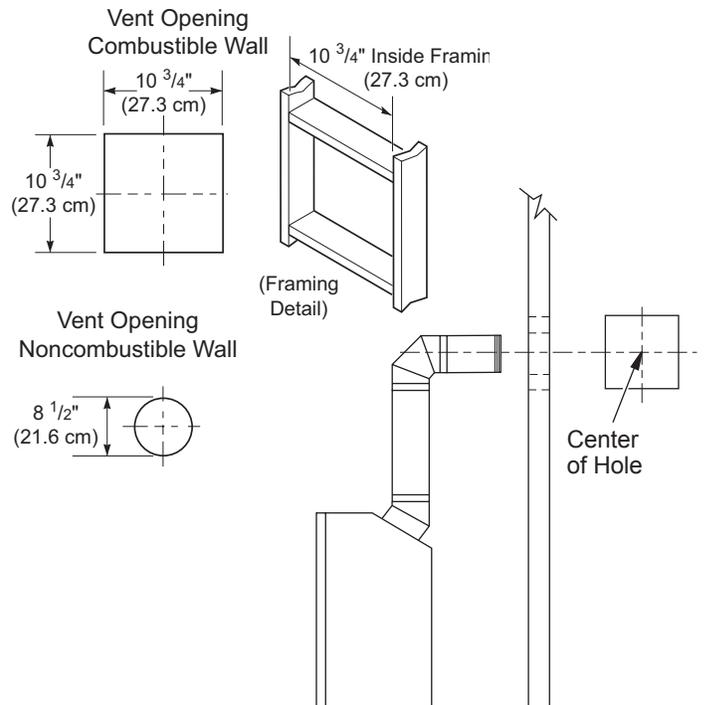

Figure 9 - Vent Opening Requirements
- Carefully determine the location where the vent pipe assembly will penetrate the outside wall. The center of the hole should line up with the center-line of the horizontal vent pipe. Mark the wall for a 10 3/4" x 10 3/4" square hole. Cut and frame the square hole in the exterior wall where the vent will be terminated. If the wall being penetrated is constructed of noncombustible material, such as masonry block or concrete, a 8 1/2" hole with zero clearance is acceptable (see Figure 9).
1. Cut a 10 3/4" square hole in the ceiling using the locating hole as a center point. The opening should be framed to 10 3/4" x 10 3/4" (27.3 cm x 27.3 cm) inside dimensions, as shown in Figure 9 on page 8 using framing lumber the same size as the ceiling joists. If the area above the ceiling is an insulated ceiling or an attic space, nail firestop from the top side. This prevents loose insulation from falling into the required clearance space. If the area above the ceiling is a living space, install firestop below the framed hole. The firestop should be installed with no less than three nails per side (see Figure 20).
3. Cut a hole in the roof using the locating hole as a center point. (Cover any exposed open vent pipes before cutting hole in roof.) The 10 3/4" x 10 3/4" hole must be measured on the horizontal; actual length may be larger depending on the pitch of the roof. There must be a 1" clearance from the vent pipe to combustible materials. Frame the opening as shown in Figure 9, page 8.